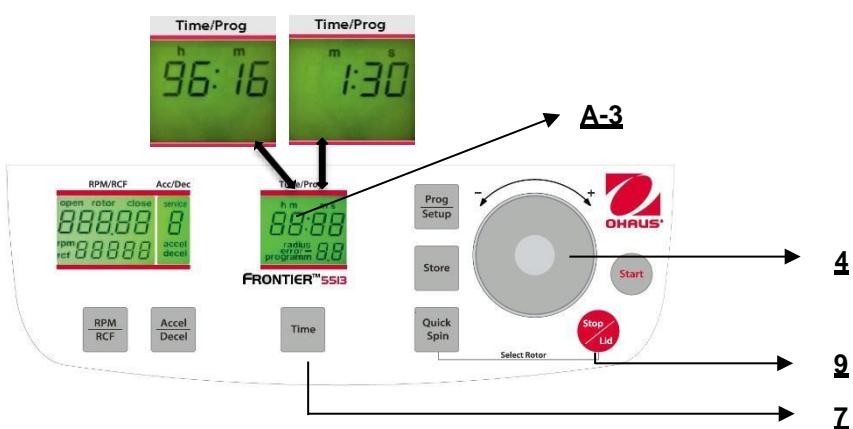

Figure. 14
3. The continuous run "cont", which can be interrupted by the key "Stop/Lid"(9) (refer to figure 14).
The display always shows the remaining running time. (see figure 14)